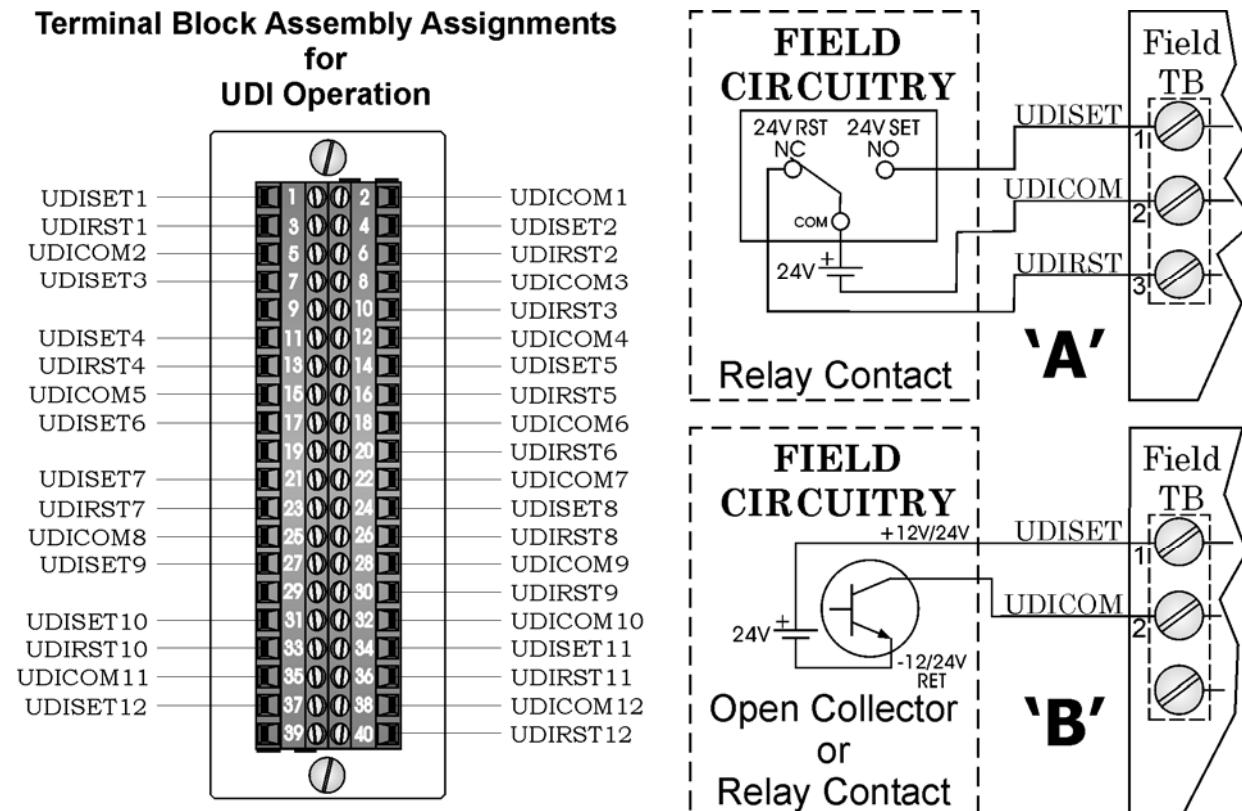

Figure 2-27 - Local UDI Terminal Block/Configuration Diagram
2.3.2.8 Universal Digital Input Modules (see Figures 2-27 through 3-30)
Field wiring assignments associated with the locally terminated UDIRS Modules and remotely terminated UDIRS Modules are provided in Figures 2-27 and 2-28 respectively.